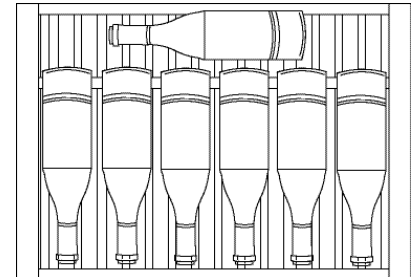

Fig. 5
- The fourth and fifth shelves hold 6 bottles with one bottle stored horizontally behind, as in Fig. 5.